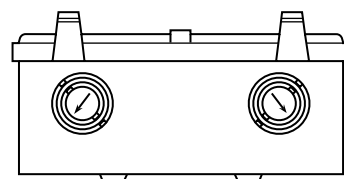

Figure 3. Electrical knockouts
4. To remove the knockouts, place a screwdriver on the knockout at the location indicated by the arrow (see fig. 3). Tap the screwdriver to pop the knockout out of the case. If the knockout is not completely removed, carefully use pliers to twist the knockout until it comes out.